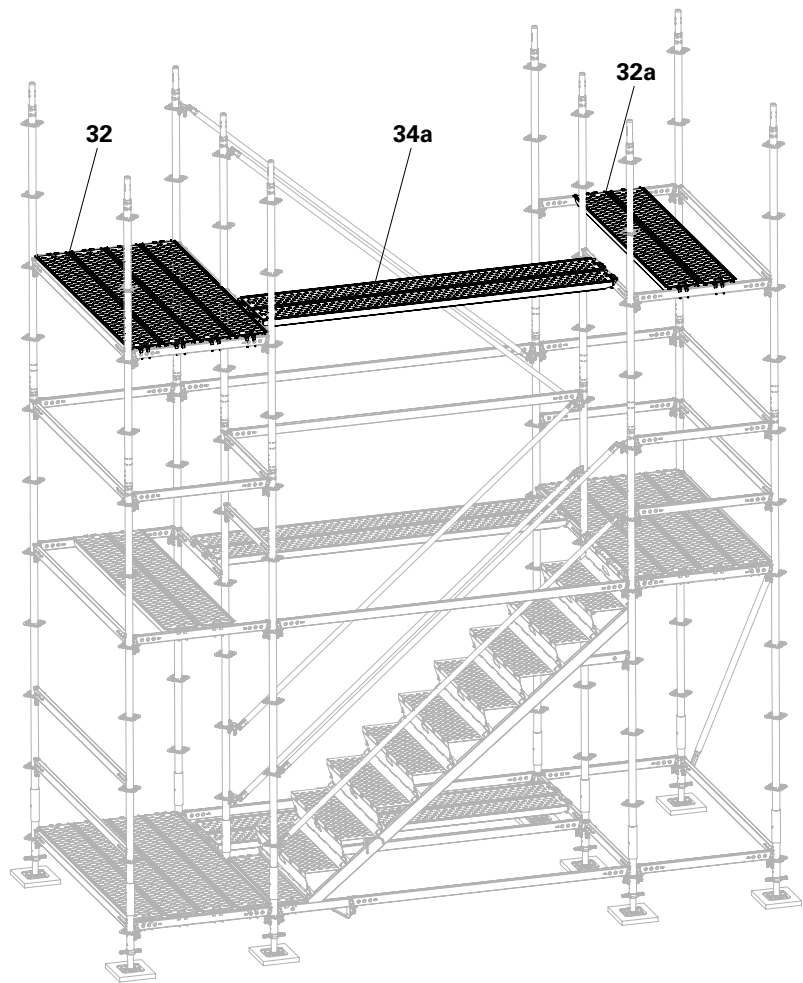

Fig. A3.02
1. Fit Steel Decks UDG-2 200 (**32**) and (**32a**). (Fig. A3.02)